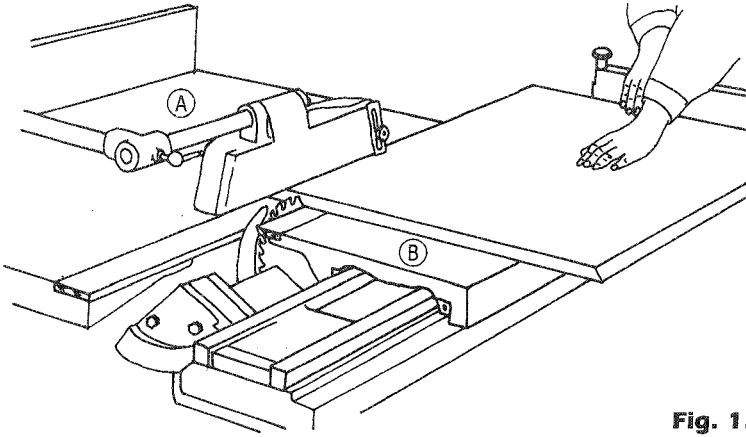

Fig. 1.54 Table arrangements.
The table is made up of two sections (Fig. 1.54). The right-hand section (A) is fixed with a ripping fence bolted on to it by means of a tee slot. With the tee slot undone the fence can be adjusted to give